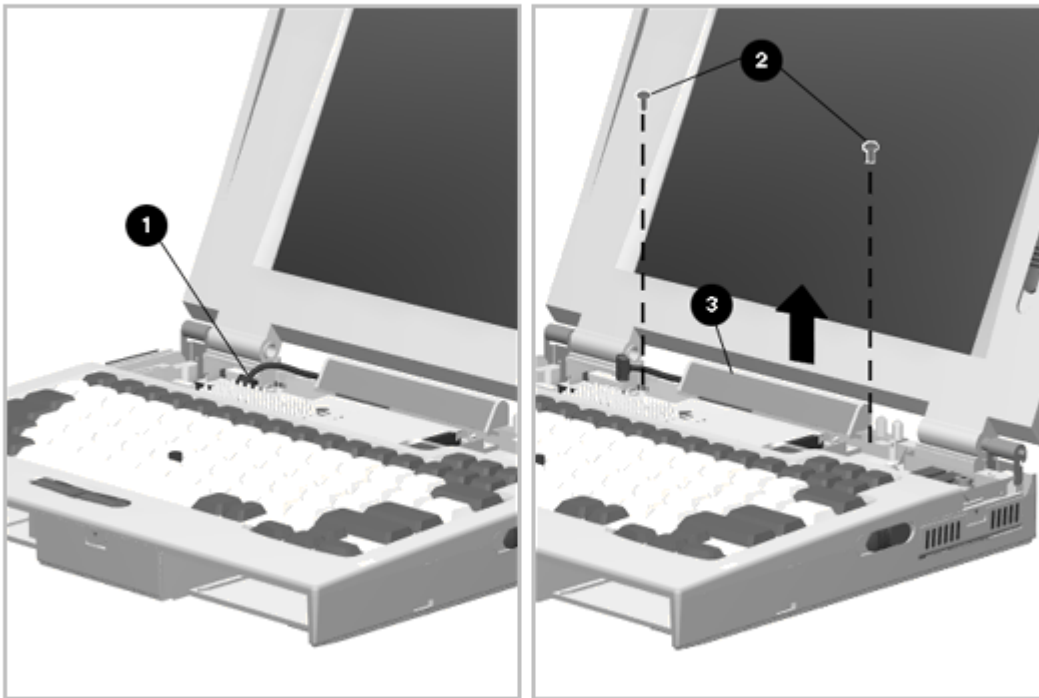

Figure 5-28. Removing the Status Panel
3. With the display open and tilted all the way back, disconnect the status panel cable [1] (Figure 5-28).
4. Remove the two status panel screws [2] (Figure 5-28).